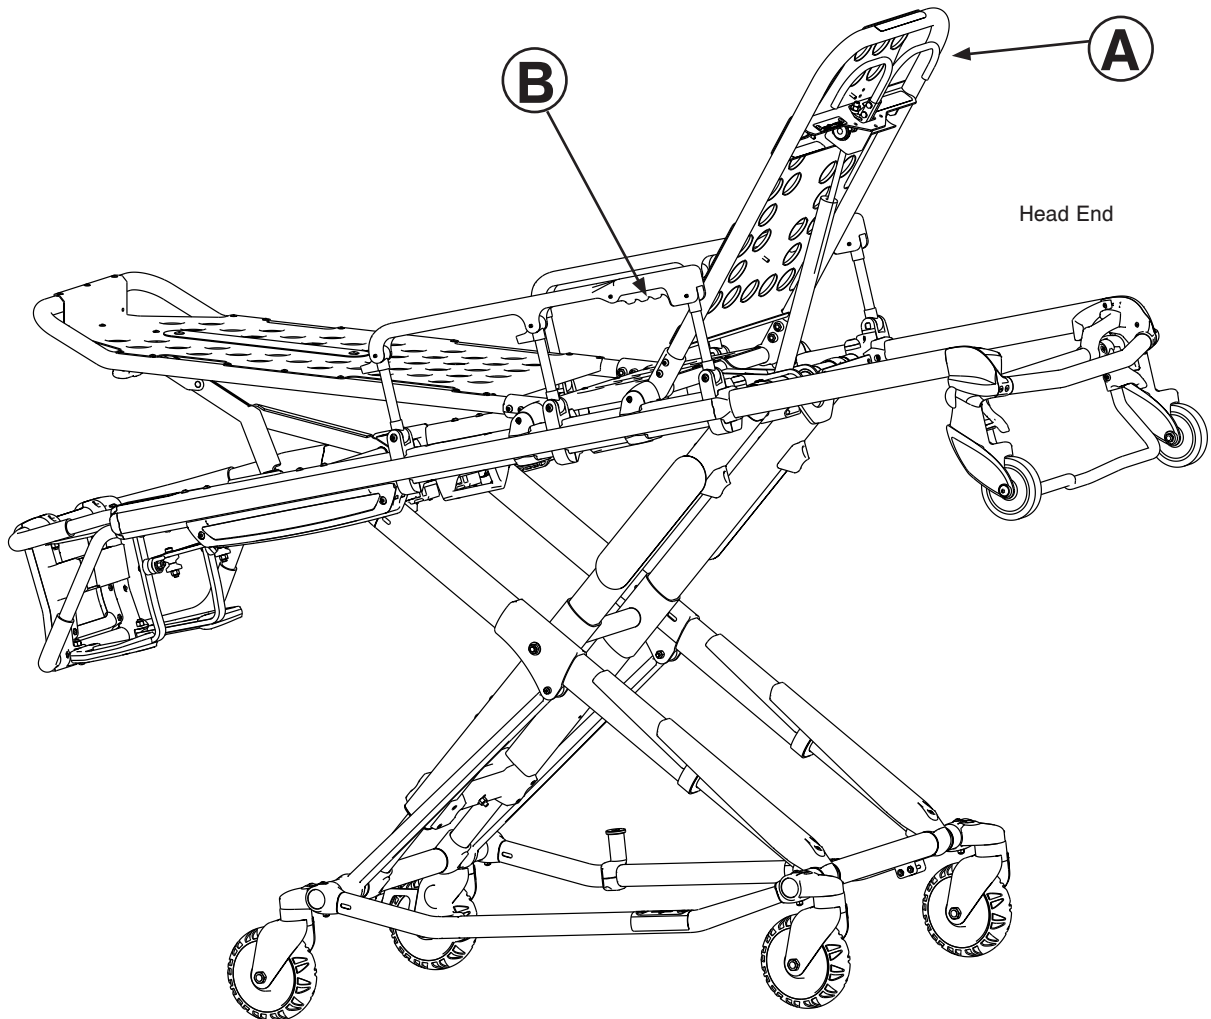

Figure 29
To raise the backrest, as shown in Figure 29, squeeze handle (A) for pneumatic assist in lifting the backrest to the desired height.
To raise the siderails, as shown in Figure 29, lift up on the siderail until the latch clicks and the siderail locks into place.